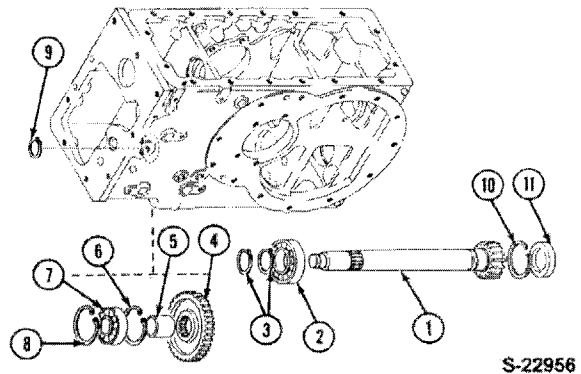

Figure 13
Reference — Figure 13
1. Remove the sealing cover (11) and snap ring (10) from the rear of the case, Figure 13.
2. Remove the snap ring (9) from the front end of the countershaft (1).
4. Remove the fixed gear (4) and spacer (5) from the bottom of the case.
5. If required, remove the snap rings (6 and 8) and remove the bearing (7) from the case.